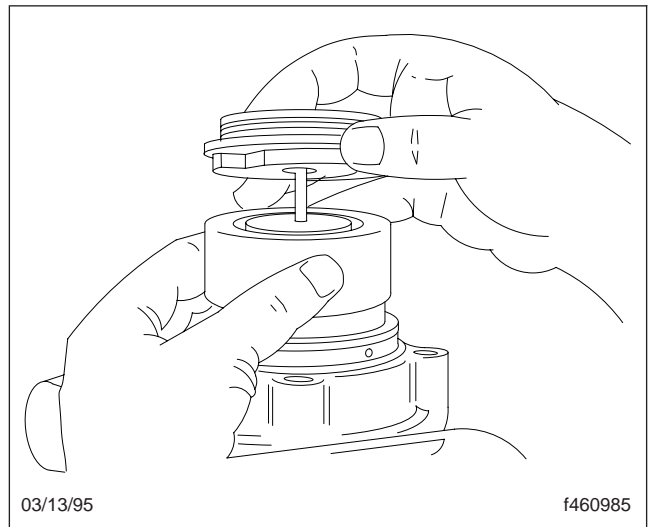

Fig. 9, Removing the Top Plate
8. Holding the cam ring in place, remove the top plate. See Fig. 9. Remove and discard the O-ring and backup O-ring.